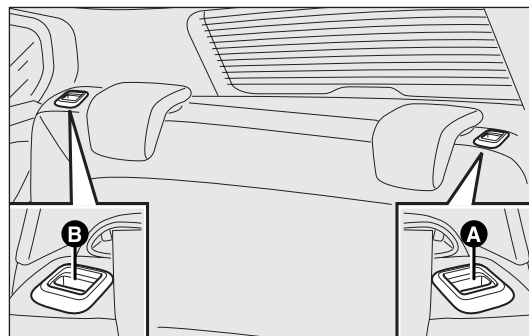

fig. 77
- ☐ operate the handles A and B-fig. 77 to release the backrests and guide them down onto the cushion.